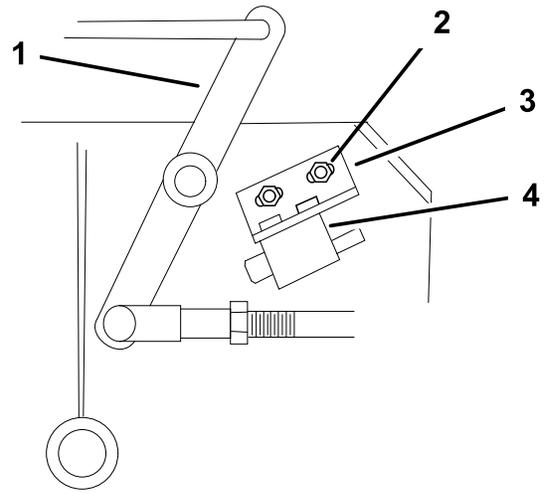

Figure 50
4. If needed, adjust the blade safety switch by loosening the bolts holding the switch bracket (Figure 50).
Note: Make sure the bellcrank **does not** touch the switch body or damage to the switch could occur (Figure 50).